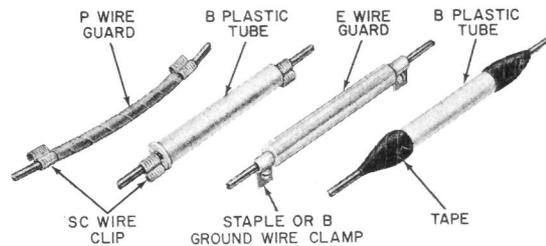

Fig. 1—Securing Wire Guards
5.01 Where it is not practicable to obtain recommended minimum separation at crossings other than those shown as *No Alternative* in Tables A and B, or where wire or cable runs are subject to mechanical damage, abrasion, or excessive heat, a protective covering is required as shown in Fig. 1. The protective covering should be used as follows: